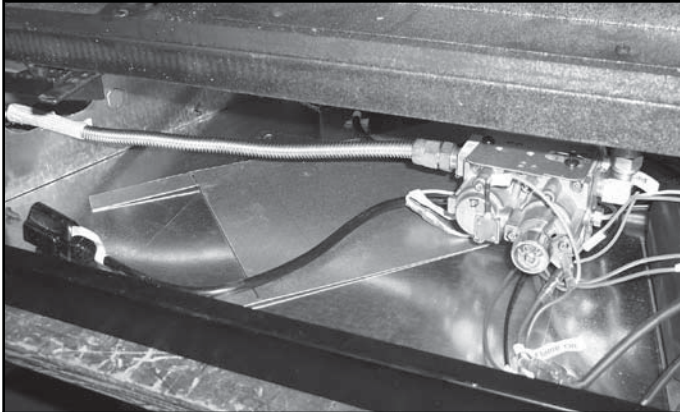

Figure 13.4 Remote Cover Plate - Shipping Location
- Locate cover plate (see Figure 13.4) and remove from appliance.